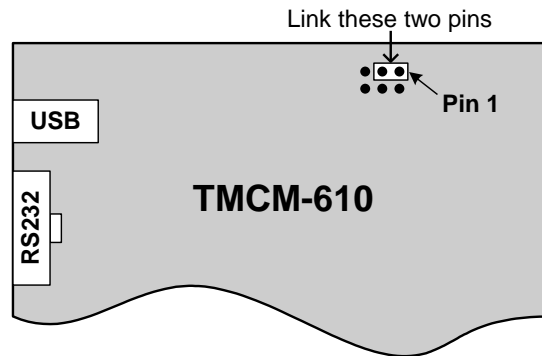

Figure 3.5: Restoring all parameters to factory default
2. Link the pins 1 and 3 of the ISP connector with a jumper (as shown in Figure 3.5).